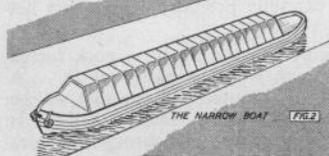

Fig. 2 : Details of towing position, and typical appearance of narrow boat. Photos on opposite page give more details of living accommodation.
The method used to set a bogey off-centre depends entirely on the make of its frame. Where a long "turntable" is given it may be possible to make use of the outer edge of this, boring and putting a new swivelling point there as (B) Figure 2. With other kinds, or to extend the top of the same type, a strip of tin (G) must be soldered under the frame as (C) Figure 2, with a smaller piece (H) on top so that the "turntable" is extended in one direction. The bolt or other pivot used in the original position can be transferred to the new centre. It should be noted
The next job was to mark out the plan outline. This was done first by marking out half the plan on paper as shown in Fig. 2, and then cutting along the centre line of the paper. This half plan was placed in correct position on the hull and used as a template. After drawing a line round it, it was turned over and the other half marked out. This method ensures that both sides of the hull are alike.